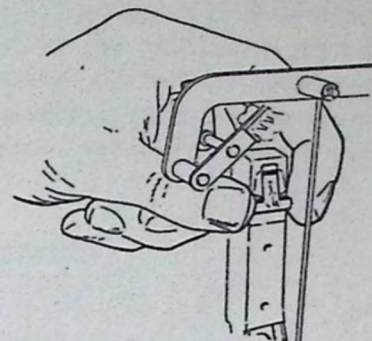

Figure 19. Rightside Armature.
2. To remove armature closest to carriage cover encircle pickup arm and grasp armature assembly T-ends with thumb and forefinger and push down. See Figure 19.